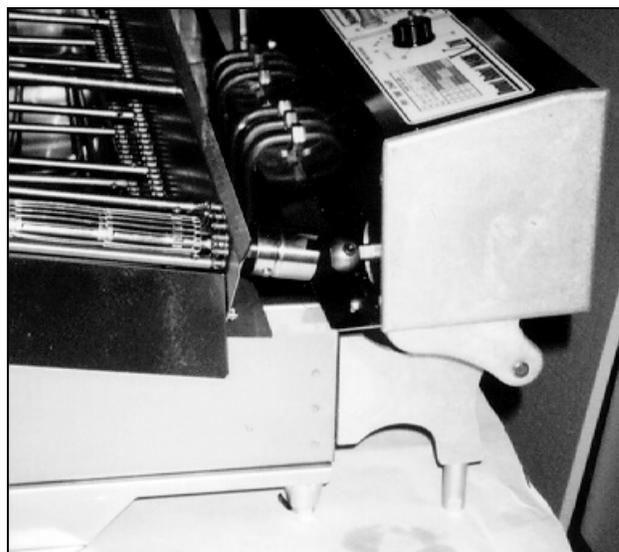

Figure 1-2. Joining the Couplings.
- a. Hold the conveyor at the angle shown in Figure 1-2 and slide the conveyor drive coupling over the main drive shaft coupling. The conveyor coupling has a notch in it. Turn the conveyor coupling so that the head of the socket head screw in the motor drive coupling can slide into this notch. (See Figure 1-2.)